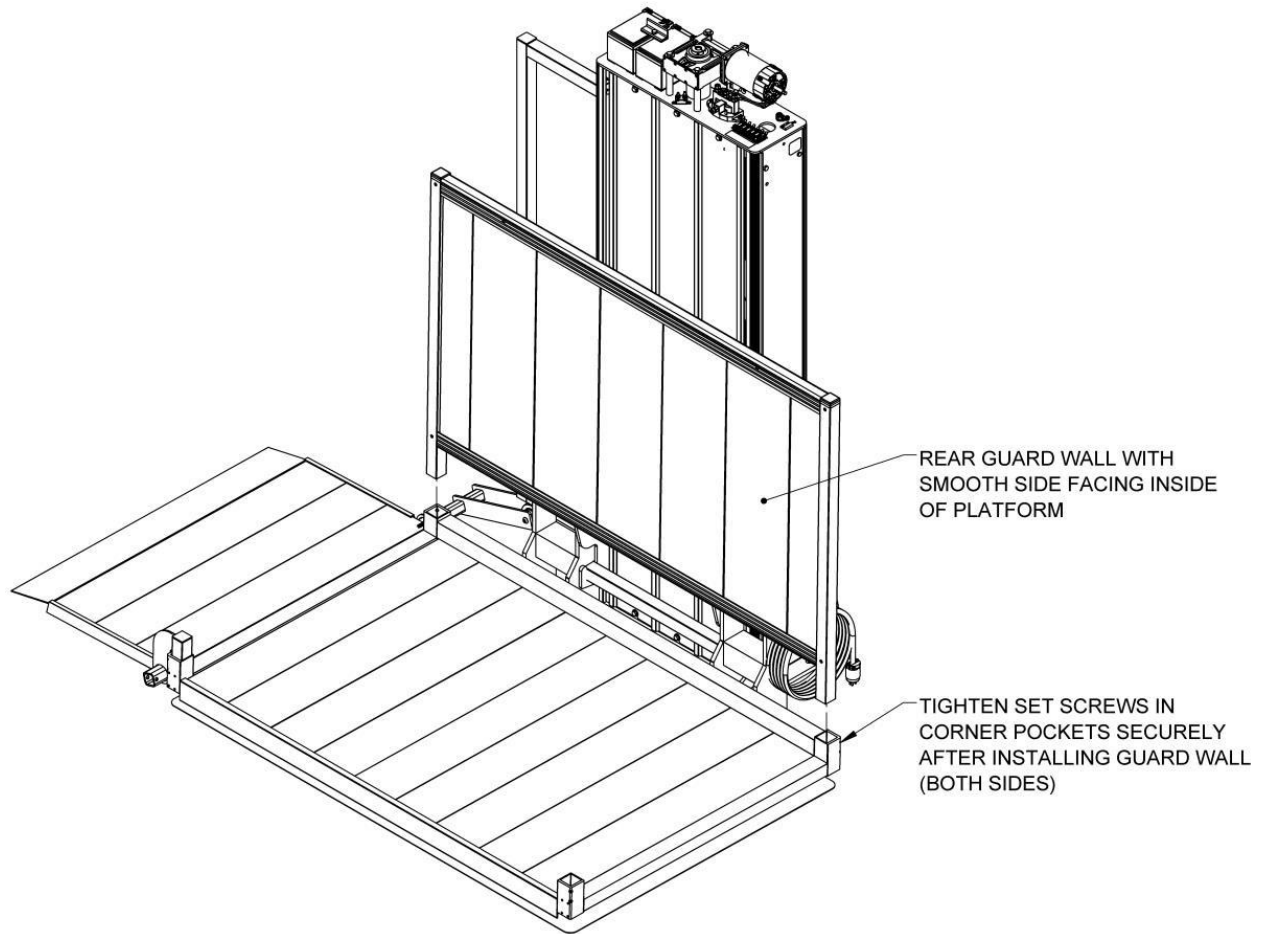

FIG. 5.11
- 5.9.8. Install the rear guard wall with the smooth side toward the inside of platform (FIG. 5.11).